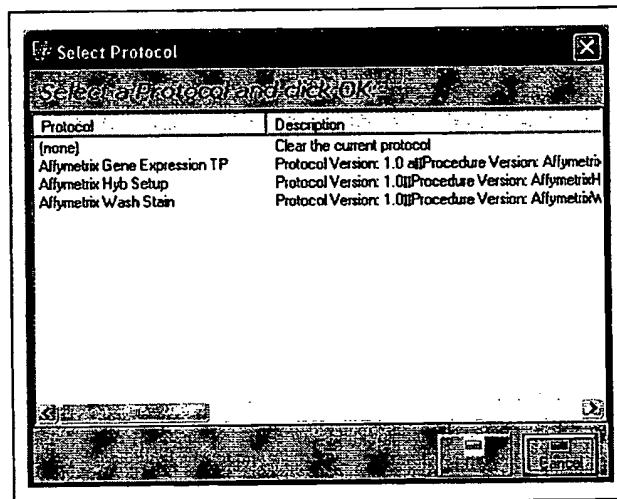

Figure 4.24
- A protocol menu appears (Figure 4.24).